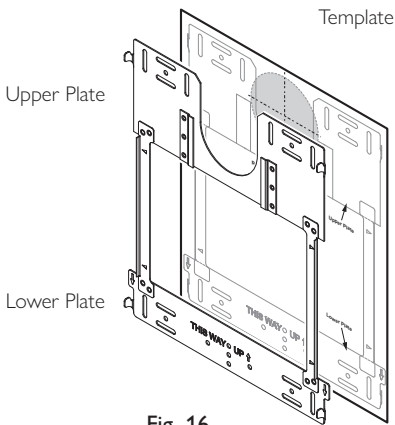

Fig. 16
1. Align the Assure FGHR template on the wall (Fig. 16) and mark the positions of suitable fixing points on the upper and lower plates of the wall frame.